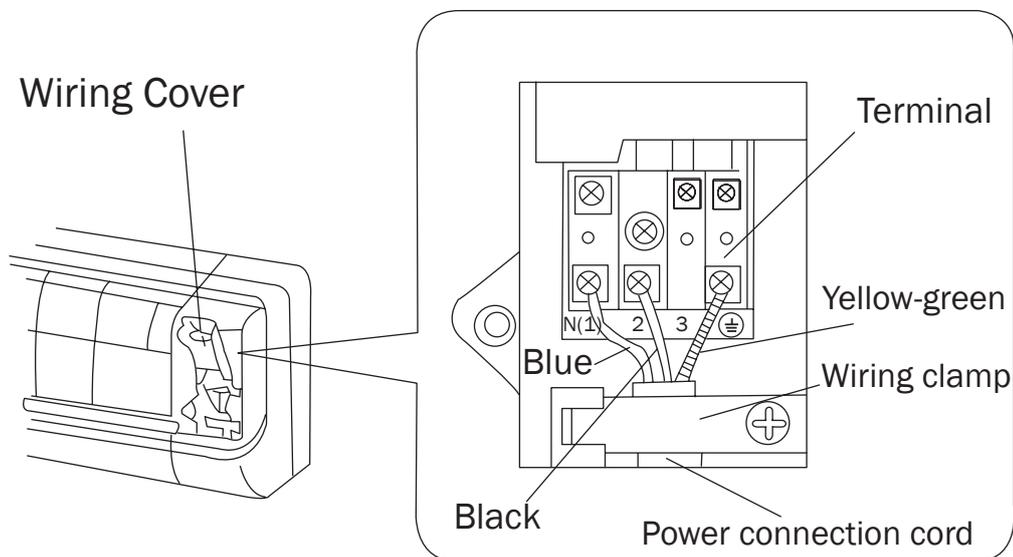

Fig. 6
- 4 Connect the blue wire of the power cord to the terminal “N(1)”, black to “2”, and yellow-green (earth wire) to “⊕” as shown in Fig.6. Then tighten the power cord by the wiring clamp.